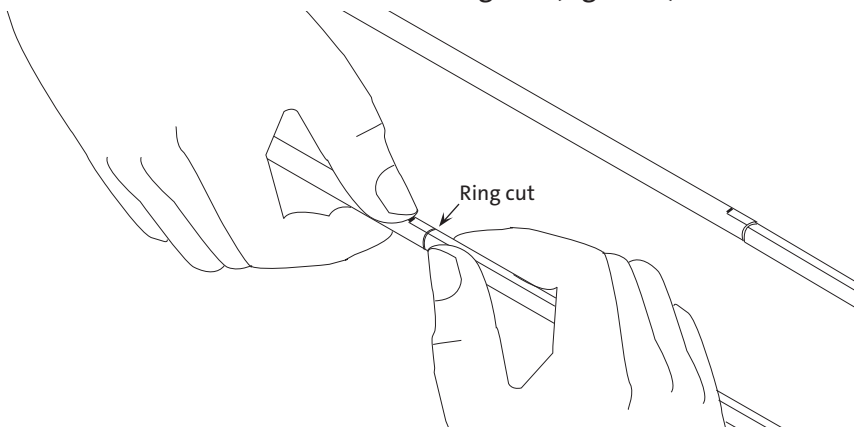

Figure 18
- a. Flex the tube at one mark to snap the tube where it was ring cut with the buffer tube cutting tool (Figure 18).